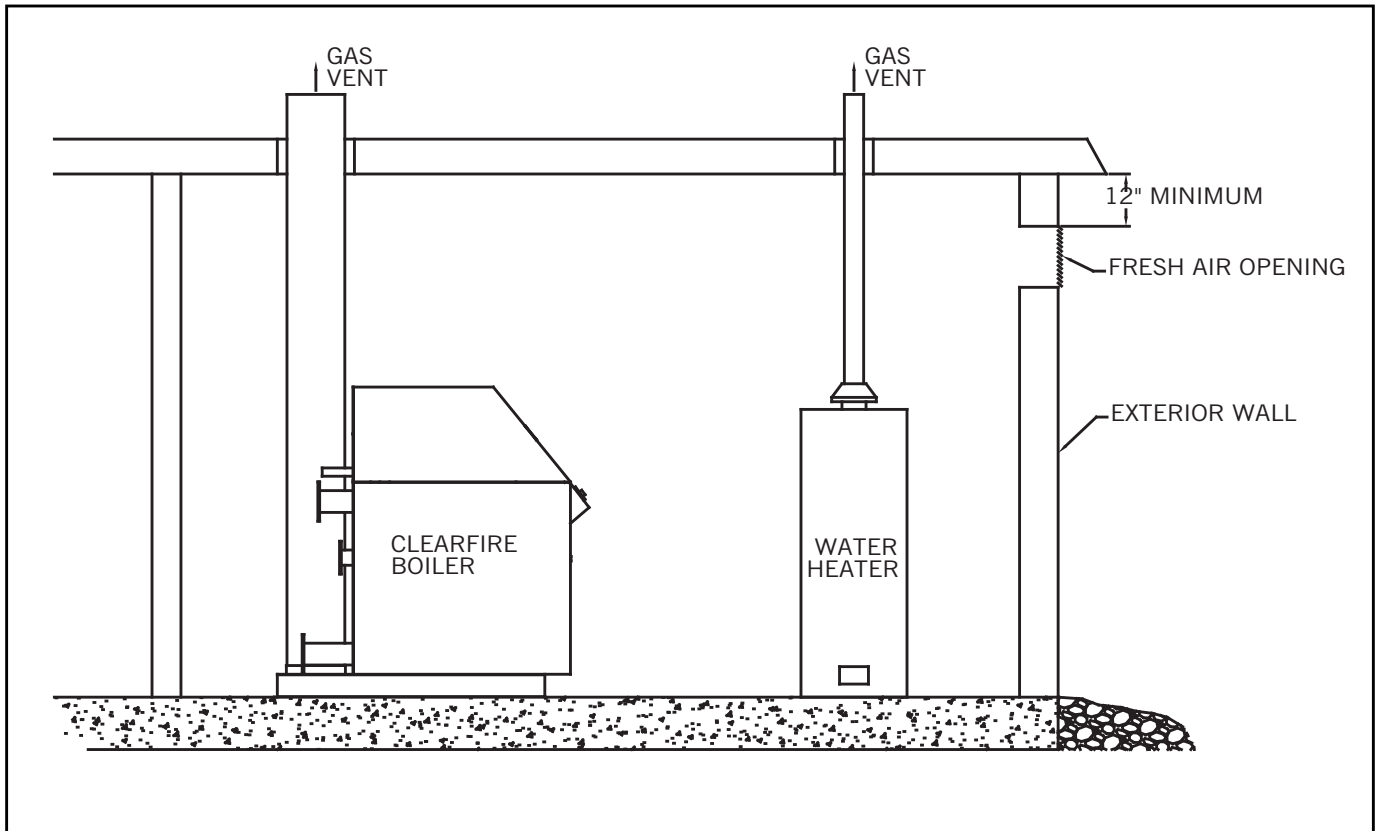

Figure B5-47. One Opening Method
- C. One Opening Method (Figure B5-47) - One permanent opening, commencing within 12 inches of the top of the enclosure, shall be provided.